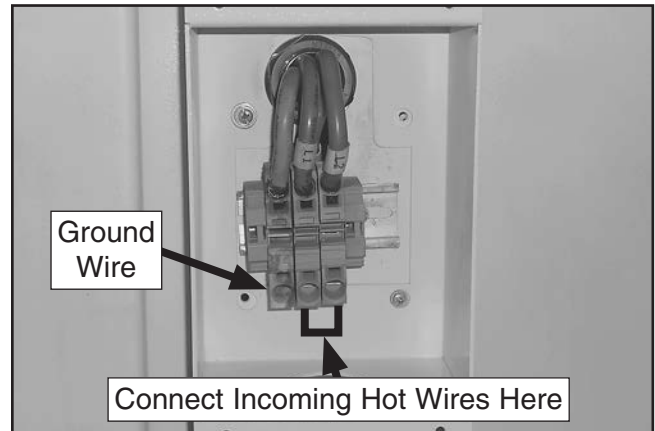

Figure 17. G0449 junction box wiring.
2. Feed the power wires through a strain relief on the bottom of the junction box, tighten the strain relief, connect the cord to the terminals shown in **Figure 17** or **18**, and reinstall the junction box cover.